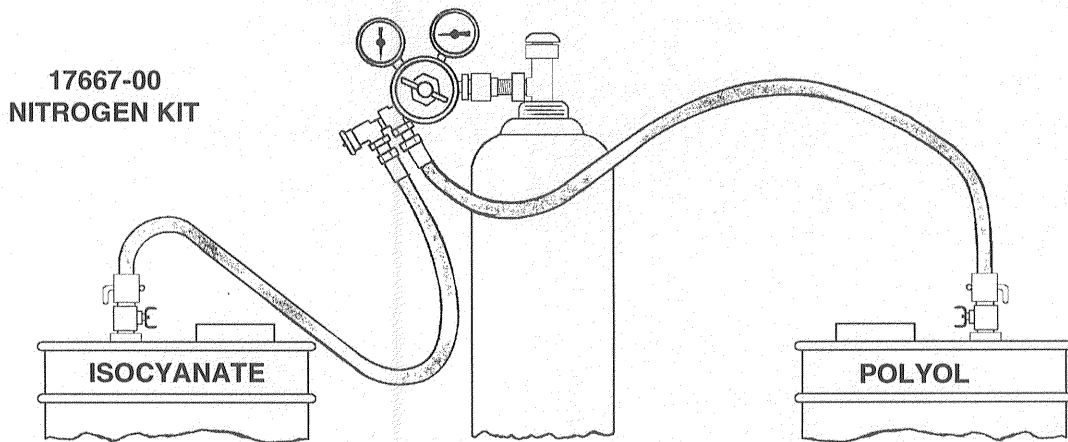

Fig. 8
8. With all fluid lines connected, an *optional* Nitrogen Kit, P/N 17667-00 or an *optional* Air Dryer Kit, P/N AD-100 should be installed on the material drums. (see Fig. 8)